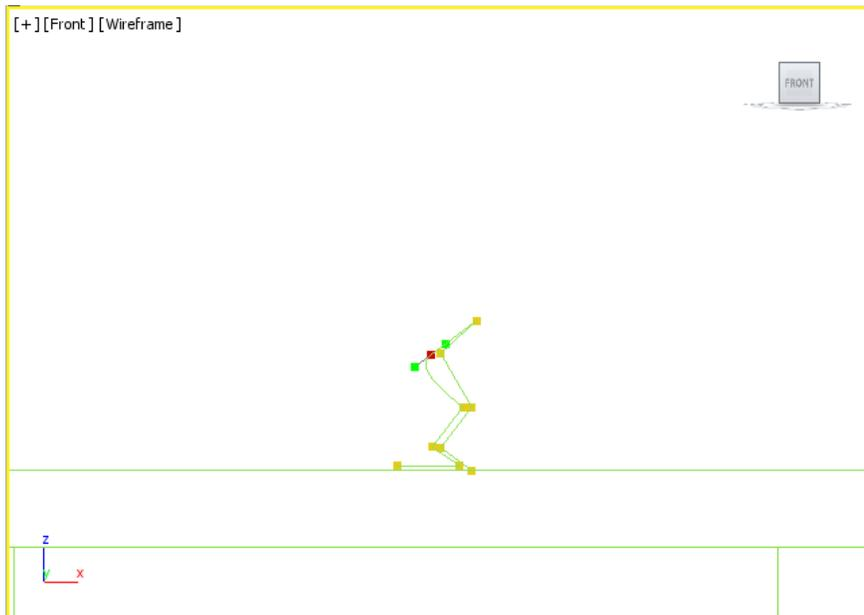

Figure 5-12 The bezier handles displayed at the vertex
10. Right-click on the inner vertex; the quad menu is displayed. Choose **Bezier** from the upper-left quadrant of the quad menu; the spline is curved at this vertex with the bezier handles displayed, as shown in Figure 5-12.